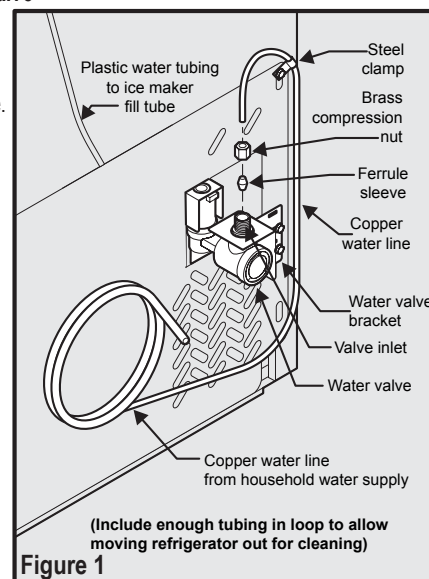

Figure 1 (Include enough tubing in loop to allow moving refrigerator out for cleaning)
- If you use copper tubing - Slide brass compression nut, then ferrule (sleeve) onto water supply line. Push water supply line into water valve inlet as far as it will go (1/4 inch). Slide ferrule (sleeve) into valve inlet and finger tighten compression nut onto valve. Tighten another half turn with a wrench; DO NOT overtighten. See Figure 1.